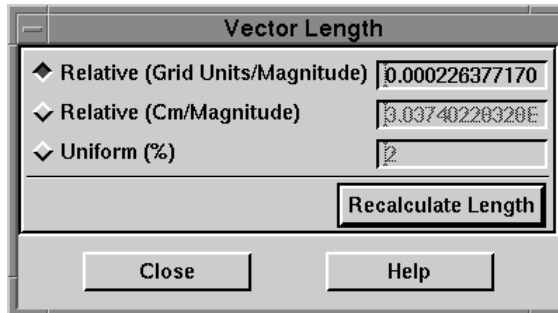

Figure 12-7. The Vector Length dialog.
1. Choose Vector Length from the Vector sub-menu of the Field menu. The Vector Length dialog appears as shown in Figure 12-7.